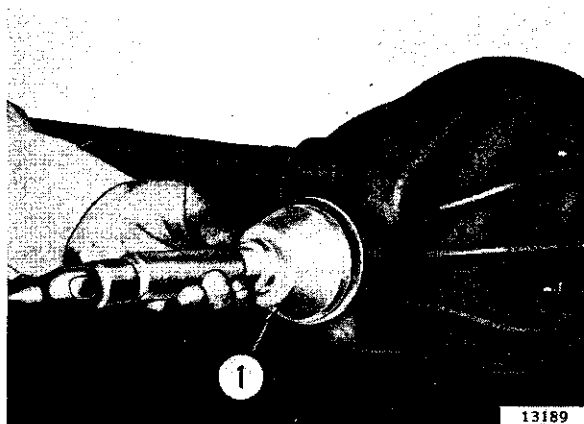

FIG. N-36—PINION SHAFT OIL SEAL INSTALLER
- p. Remove the sleeve previously installed in place of the yoke. Install the oil seal with Tool W-147 shown in Fig. N-36.